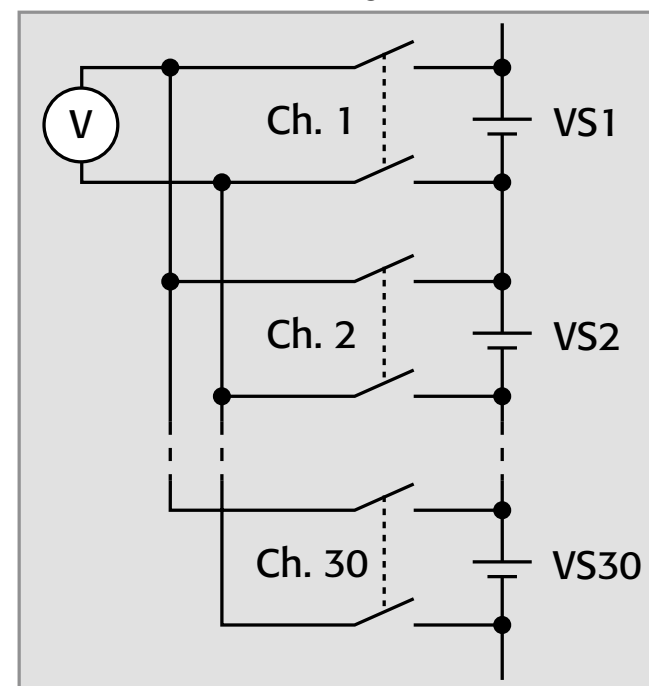

Figure 1. Switching a voltmeter to multiple sources in series
Figure 1 illustrates switching a voltmeter to a series string of 30 batteries or voltage sources (VS). To avoid short-circuiting one or more of these sources, it is necessary to open a given channel before closing a second one (*break-before-make* operation). To guard against short-circuiting, add fuses in series with each voltage source to prevent damage to the switch card. Be sure not to exceed the common-mode rating of the switch card. In this example, each battery is 12V and the total voltage across the string is 360V. A channel-to-channel voltage rating and a common-mode voltage rating of at least 500V is desirable.